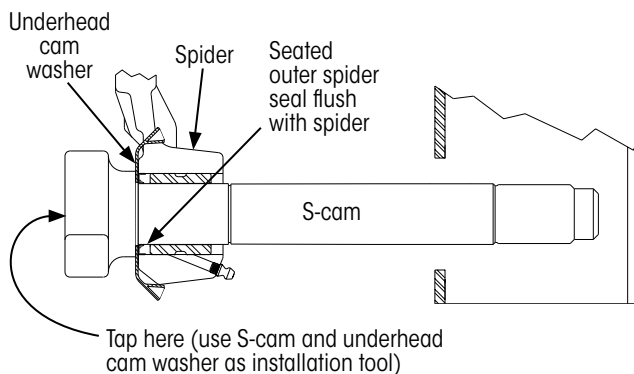

Figure 18: Outer spider seal installation technique
5. Seat the outer spider seal (item 4, Figure 6 on page 9) into the spider by tapping on the head of the S-cam with a hammer (Figure 18).